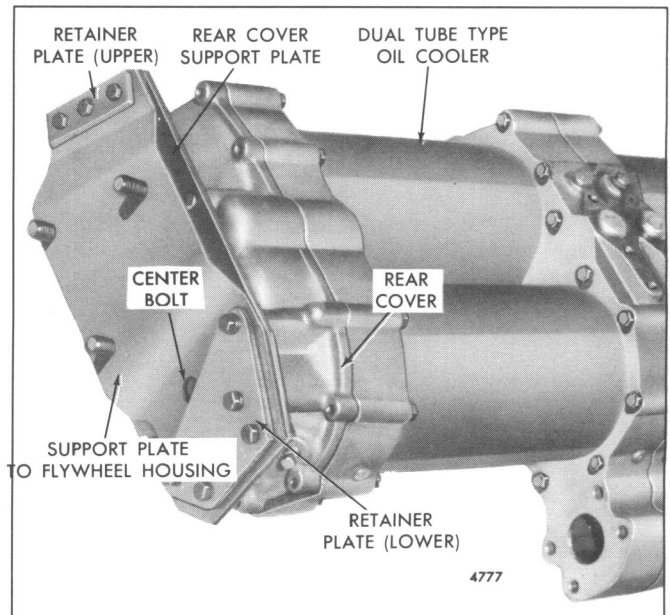

Fig. 16 – Dual Tube Type Oil Cooler
9. On a dual tube type oil cooler (Fig. 16), assemble the two rear cooler cover support plates, the upper retainer plate and the necessary .062" shims with three 3/8"-16 x 1-5/8" bolts. Then assemble the lower retainer plate and necessary .062" shims using a new gasket between the oil cooler cover and support plate with five 3/8"-16